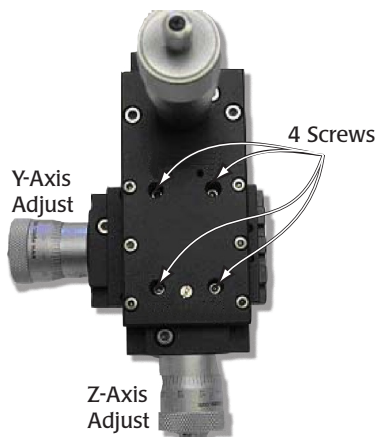

Fig. 9—Position right-handed micromanipulator to expose the four hex screws
1. Position the manipulator with the “Y” axis adjustment on the left, and “Z” axis adjustment facing toward you (**Fig. 9**).
2. Use the “Z” axis adjustment knob to align the access holes with the (4) screws that fasten the “Y” axis subassembly to the main unit (**Fig. 9**).
3. Using a 2.5mm hex wrench (WPI #**3327**), loosen and remove the (4) screws shown in **Fig. 9**. The manipulator disassembles into in two parts (**Fig. 10**).